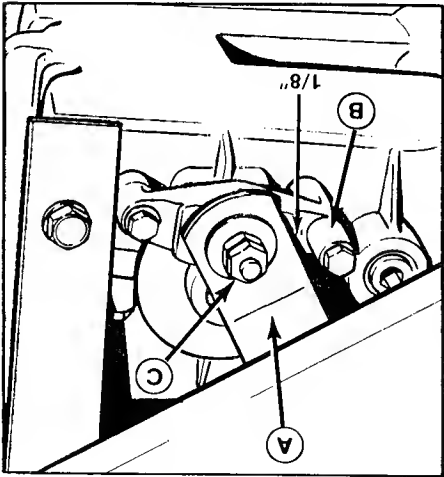

Figure 25. Parking Brake Adjustment
- Push the cam lever (A, figure 25) forward (toward front of tractor) to take out any slack. The gap between lever (A) and stop (B) should be 1/8 inch (0.3 mm). Use a feeler gauge to measure. If not 1/8 inch, perform step "c".